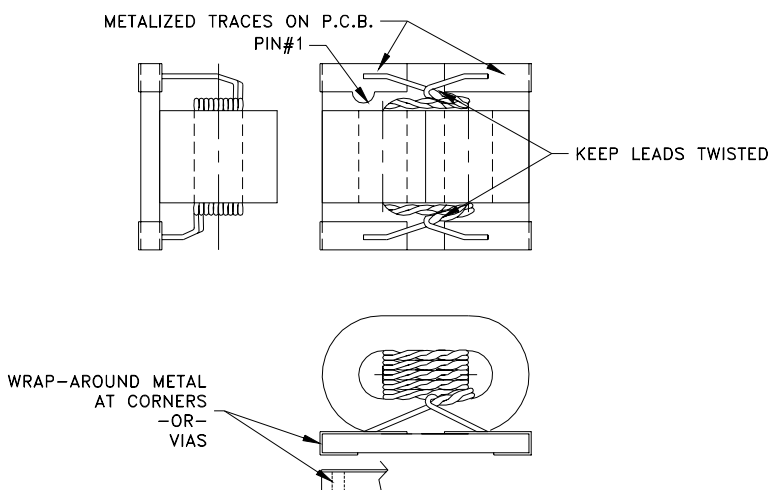

Figure 16: Balun Drawing
(1) N connector center pin should be approximately 80 mils in length.
(2) T1, T2 balun: 6.5 turns thru, as shown in Figure 16.
(3) Due to the power dissipation of this device, the printed circuit board should be mounted / attached to a heat sink.